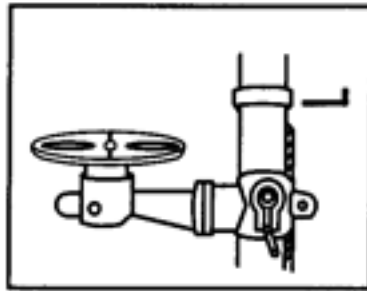

Figure 5
6. Secure the rack by installing rack ring. (Fig. 5)
6. Push the chuck up on the arbor nose as far as it will go (Fig 5).